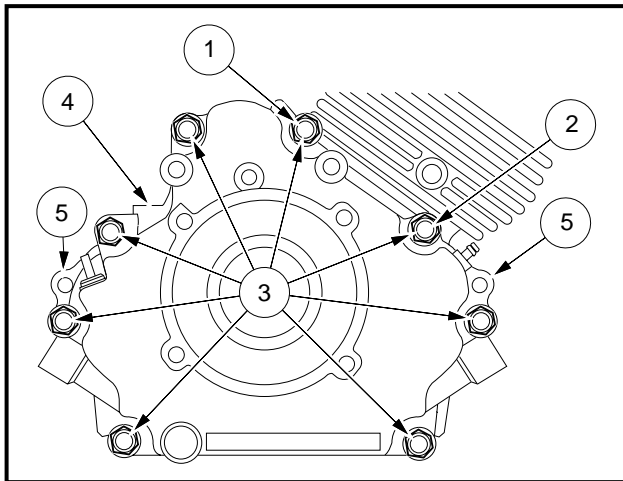

Figure 13-43 Crankcase Cover
2. Remove nuts and clamps at two-ended bolts (1 and 2) (**Figure 13-43, Page 13-22**).
3. Remove eight bolts (3) and remove the crankcase cover (4) (**Figure 13-43, Page 13-22**). **See following NOTE.**
NOTE: If the crankcase cover sticks, tap lightly with a plastic mallet on alternate sides near the dowel pins (5) (**Figure 13-43, Page 13-22**).